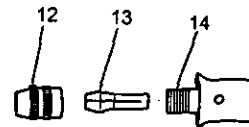

Fig. 5
- Remove collet nut (12) and remove collet (13) from end of shaft (14) (see Fig. 5).